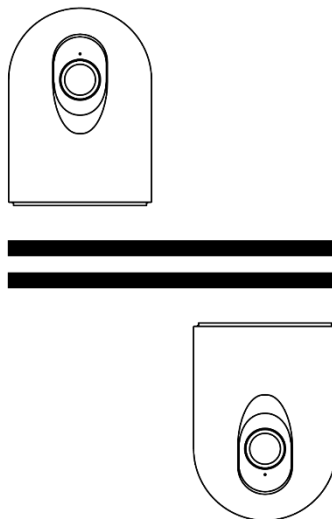

Figure 4: Camera Installation Options
- b. There are two options on the device orientation: (1) install right-side-up OR (2) upside-down (see Figure 4).